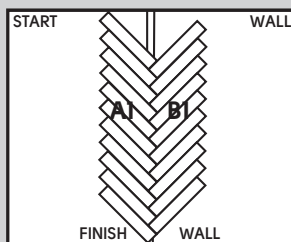

Fig. 6
7. Continue installing planks without cutting them, working in opposite directions. Verify that the installed planks are straight on the lines. (Fig 6). carefully tap the plank/tile together flat on the floor.